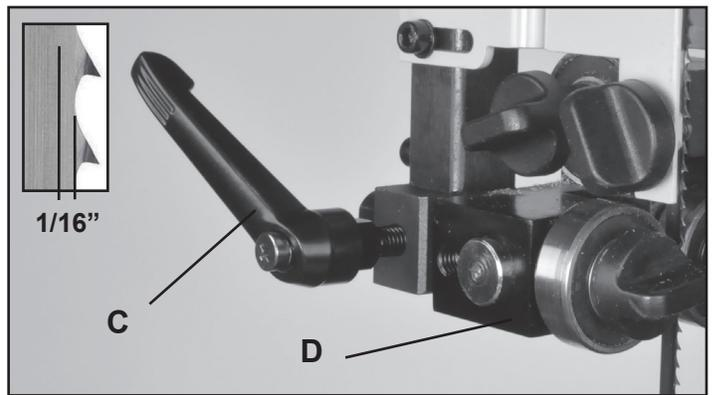

FIGURE 23
2. The guides should be approximately 1/16" behind the gullets of the saw blade. If they need to be moved, loosen the back Ratchet Handle (#31C, Fig. 23, C) and move the Upper Guide Block (#20C, D) that holds the guides so that the guides are properly positioned behind the blade gullets. Re-tighten the handle when done. Fig. 23.